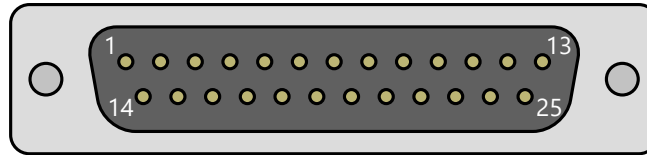

Figure 2: Male DB25 connector pin layout
Step 2: Hold it so you are looking at the pins with them pointing at you. Orient the connector so the row with 13 pins is on top, now the upper left-hand pin is pin 1. See figure 2 (above) for reference.